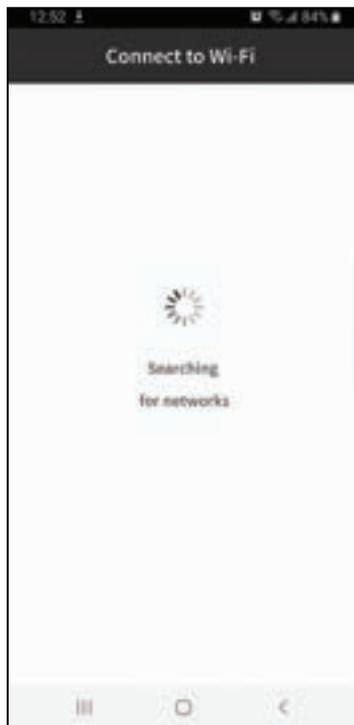

Fig. 7
5. Select desired Wi-Fi and connect by entering the Wi-Fi password of your home (**Fig. 7 & 8**).